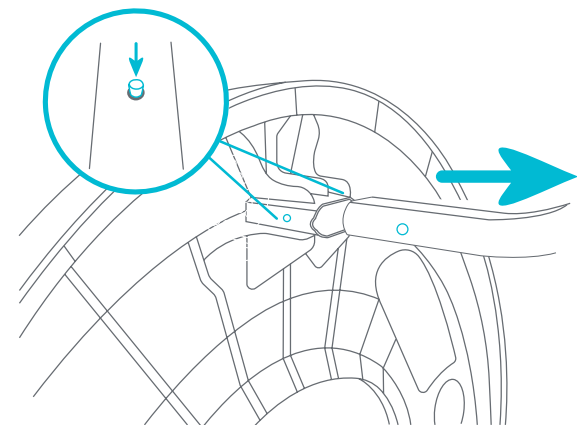

Fig. 8
- To remove the legs from the tabletop, press in the pin and pull the leg out. Repeat for the other two legs (Fig. 8).